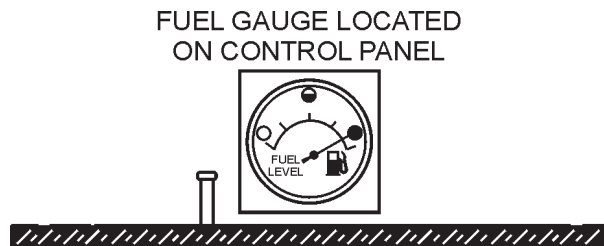

Figure 34. Full Fuel Tank
3. **NEVER overfill fuel tank** – It is important to read the fuel gauge when filling trailer fuel tank. **DO NOT** wait for fuel to rise in filler neck (Figure 34).